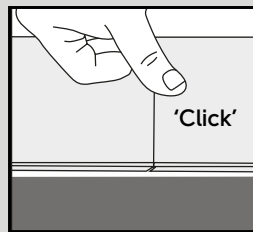
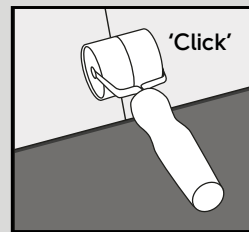

Fig. 5a
Fig. 5b
5. Once the long side is aligned and tight, drop the short end into place by rubbing over the end joint with your thumb or a small roller until a 'click' is heard (Fig. 5a and Fig. 5b).